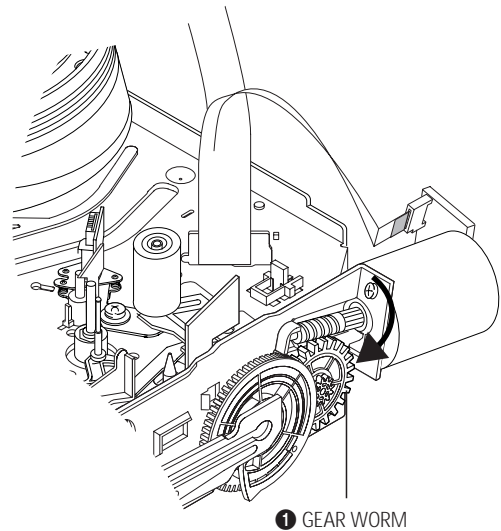

Fig. 5-42
- 3) Rotate Gear Worm ❶ clockwise using screw driver again up to the state of eject mode and then pick out the tape. (Refer to Fig.5-42)